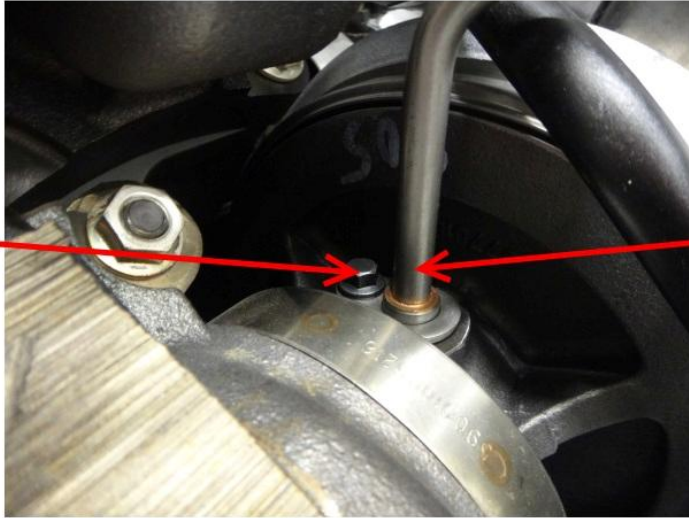

Figure 17: Oil Supply Tube to Low Pressure Turbocharger
11. Connect oil supply tube (**Figure 17**, Item 2) to LP turbocharger, secure with new M6 X 16 bolt (**Figure 17**, Item 1).